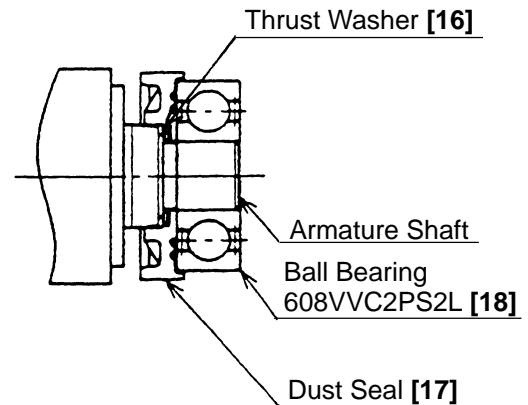

Fig. 7
- (1) Generously lubricate the teeth of Gear [20] and Pinion [6] with grease. Rub grease onto the teeth with your fingers so that the grease reaches each tooth bottom. Note that under-lubricated Gear [20] and Pinion [6] may wear at a faster rate.
- (2) When replacing the Armature [12] and the Ball Bearing 608VVC2PS2L [18] on the commutator side, press inward on Dust Seal (A) [17] while taking care of its direction until the end face of Dust Seal (A) [17] hits against the butting surface of the Armature [12] and make sure that Dust Seal (A) [17] cannot turn freely. (See Fig. 7.)